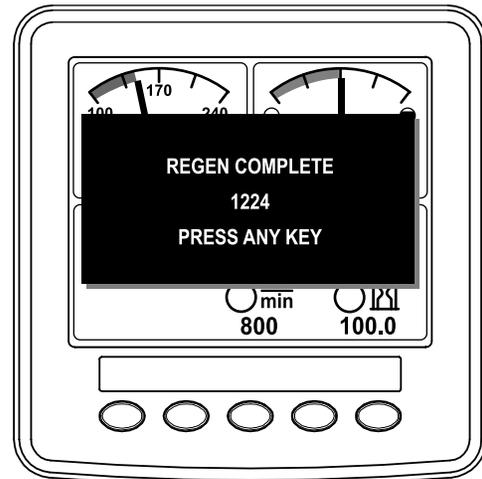

Figure 62
- When the engine computer completes a parked or recovery regeneration, the InfoCenter displays ADVISORY #1224 (Figure 62). Press any button to exit to the home screen.